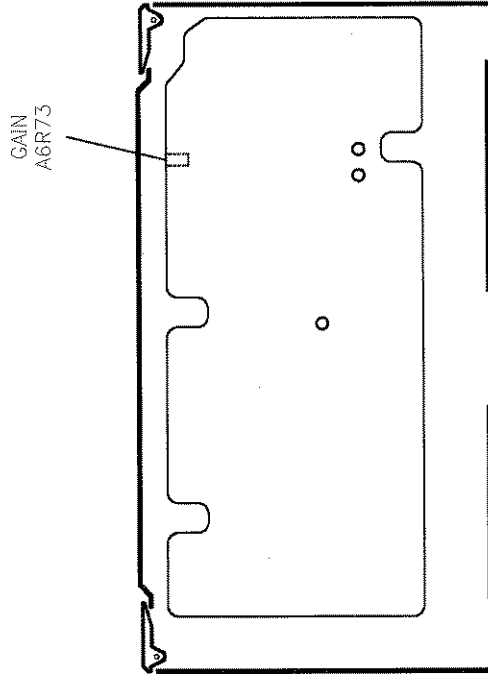

Figure 3-9. IF Gain Adjustment Location
14. Adjust A6R73 (see Figure 3-9) to center the "needle" on the display.